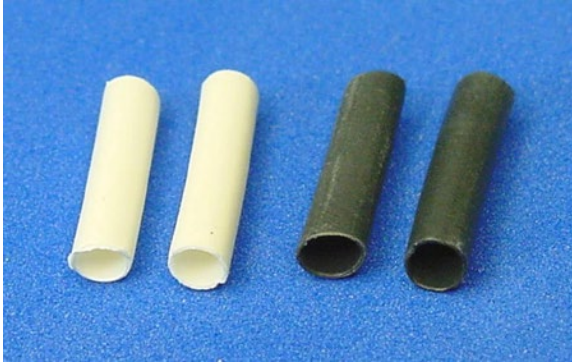

Figure 22-8. White and black $\frac{3}{32}$ -inch diameter heat-shrink tubing cut to 1.5 cm lengths
1. Cut two pieces of white $\frac{3}{32}$ -inch diameter heat-shrink tubing to a length of 1.5 cm (see Figure 22-8). You will use one white tube on each motor.
2. Cut two pieces of black tubing to the same length (again, see Figure 22-8).